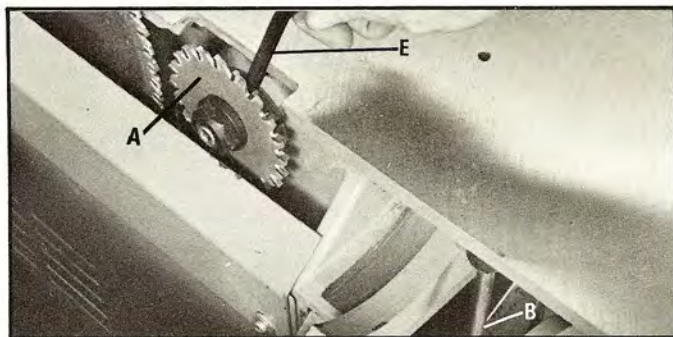

Fig. 28
2. To adjust the height of the scoring blade (A) Fig. 28, first loosen clamp handle (B), then insert Allen wrench (E) in the notched eccentric as shown and turn it to the desired height.